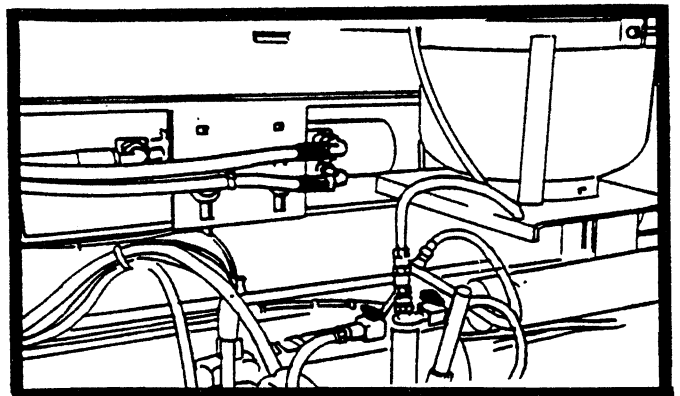

FIGURE 44
1. The auger chains should be just snug, not loose. To snug up, loosen bolts in slots provided for takeup. See figure 44.